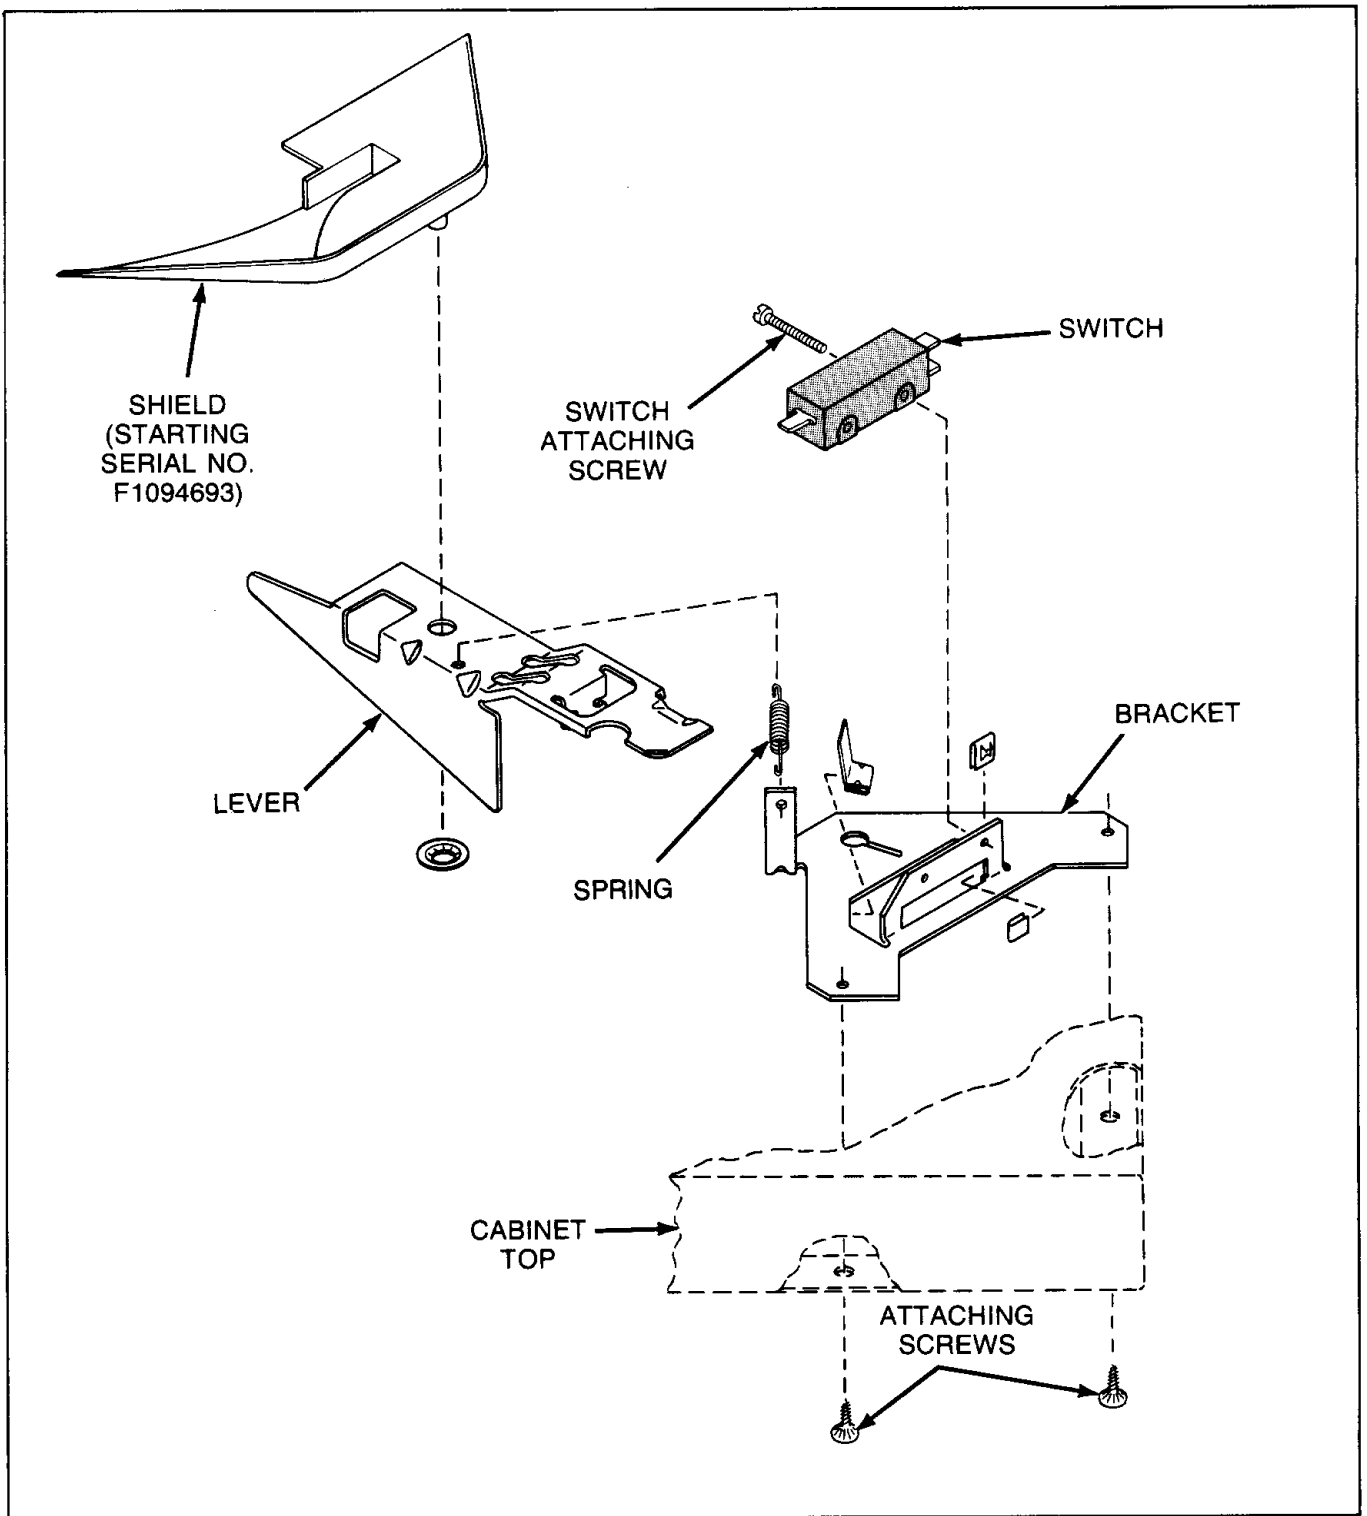

Figure 24
22. **DOOR AND OUT-OF-BALANCE SWITCH AND BRACKET ASSEMBLY** (Refer to Figure 24)